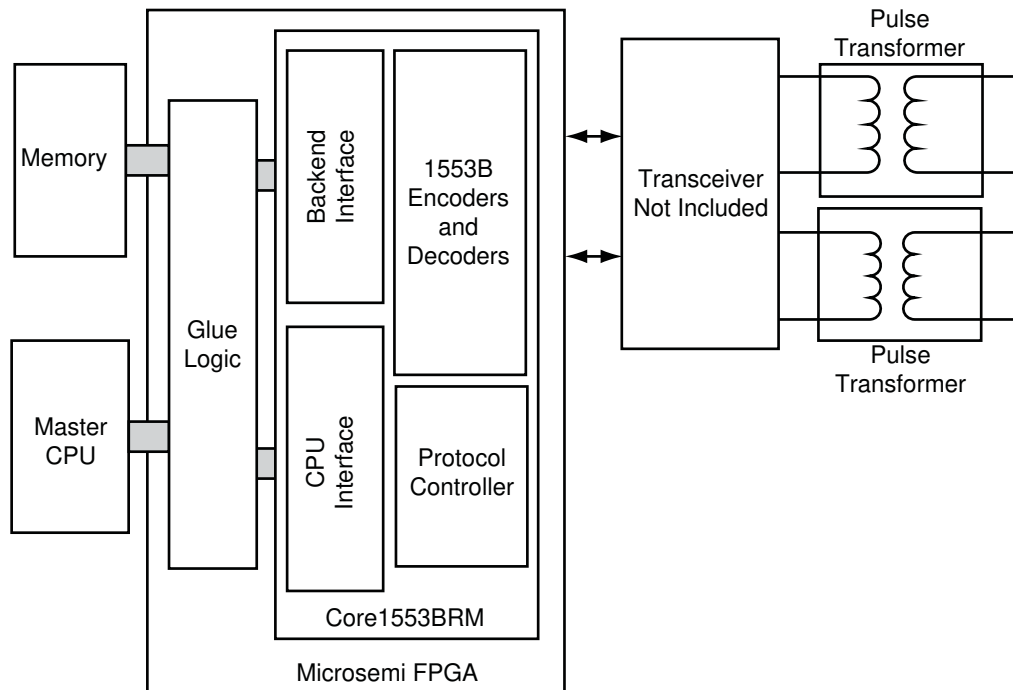

Figure 1 • Typical Core1553BRM Application
Microsemi Core1553BRM provides a complete MIL-STD-1553B bus controller (BC), remote terminal (RT), or bus monitor terminal (BM or MT). Core1553BRM can be configured to provide all three 1553 functions or any combination thereof. The core is supported in all recent Microsemi Flash, antifuse, and radiation-tolerant product families. A typical system implementation using Core1553BRM is shown in Figure 1.